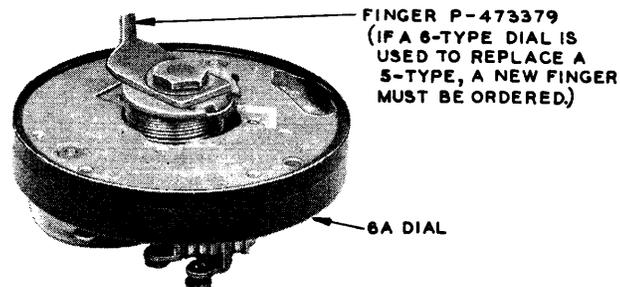

Fig. 7 — Finger P-473379
4.07 To replace dial, remove the dial from the mounting bracket and install a new dial, less finger wheel, number plate, clamping ring, and finger stop. Transfer finger from old dial to new (see Fig. 7). If a 6-type dial is used to replace a 5 type, a new finger P-473379 is required. The filter will also require changing from 61L to 61D type. It may be necessary to install a new P-473405 (dial mounting) bracket in order to obtain suffi-